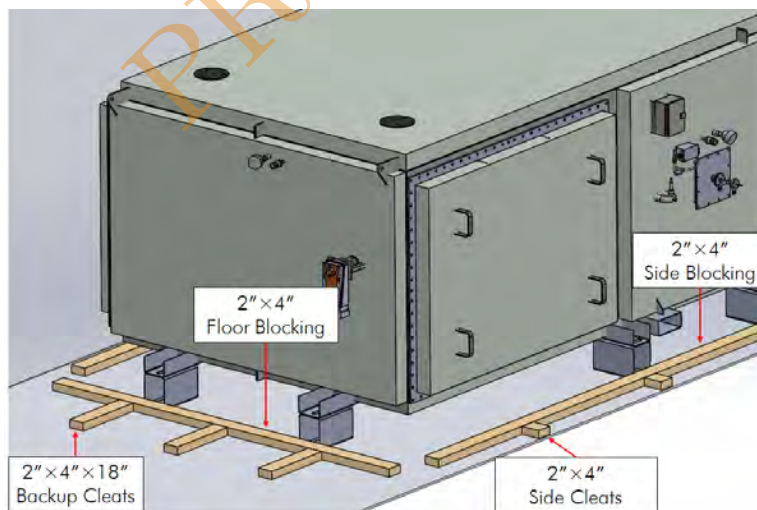

Figure 4.7: Floor blocking technique
2. **Floor blocking:** Blocking is to be installed on the floor of the container as pictured in Figure 4.7, securing the ecoCUBE[®] at the support rails or shipping blocks.